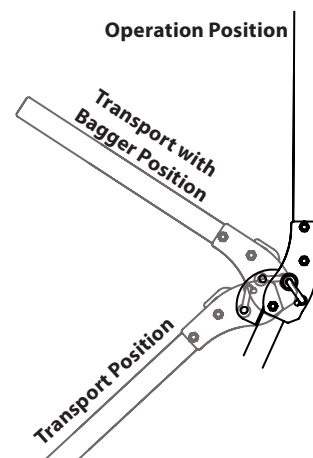

Figure 3-2
Refer to Figure 3-2 and the following descriptions and uses for the three (3) positions for the ROPS.
2. Move the ROPS into the desired position. The three positions are TRANSPORT position, TRANSPORT WITH BAGGER position and the OPERATION position. See Figure 3-2.